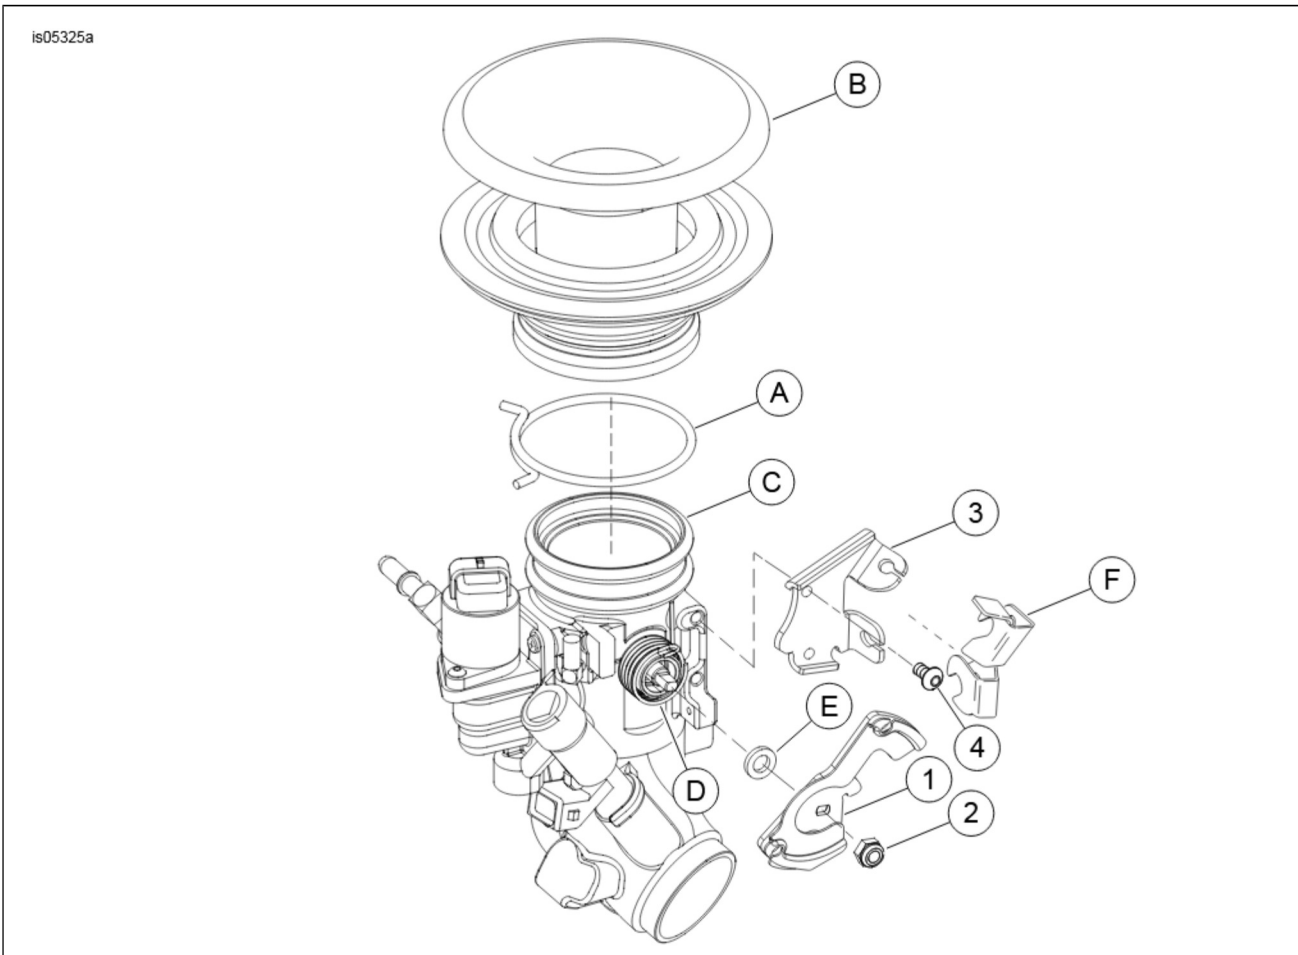

Figure 3. Service Parts: Reduced Power Cam Kits (984cc and 1203cc)
See Figure 3 and Table 1.
4. See Figure 3 and Table 1. Remove velocity stack ring clamp (A) and velocity stack (B) from throttle body (C).
7. Remove nylock nut (6) and throttle cam. Discard the nylock nut.
8. See Figure 3 and Table 1. Install the new throttle cable bracket (3) using screws (4). Apply a drop of Loctite 222 to each screw and tighten to 2.9–3.5 N·m (25–30 in-lbs).